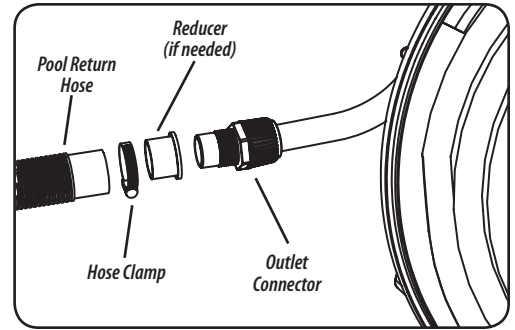

Figure 3
- Using a hose clamp, secure the loose end of your existing pool return hose to the outlet connector (see figure 3).